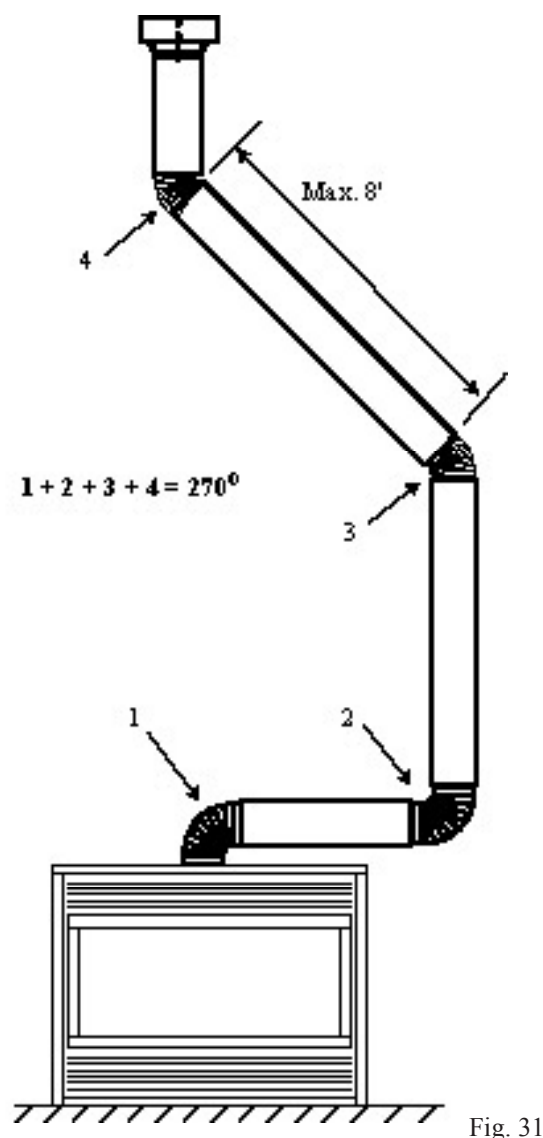

Fig. 31
- Two sets of 45° elbow offsets within these vertical installations. From 0 to a maximum of 8' of vent pipe can be used between elbows. (Fig. 31)